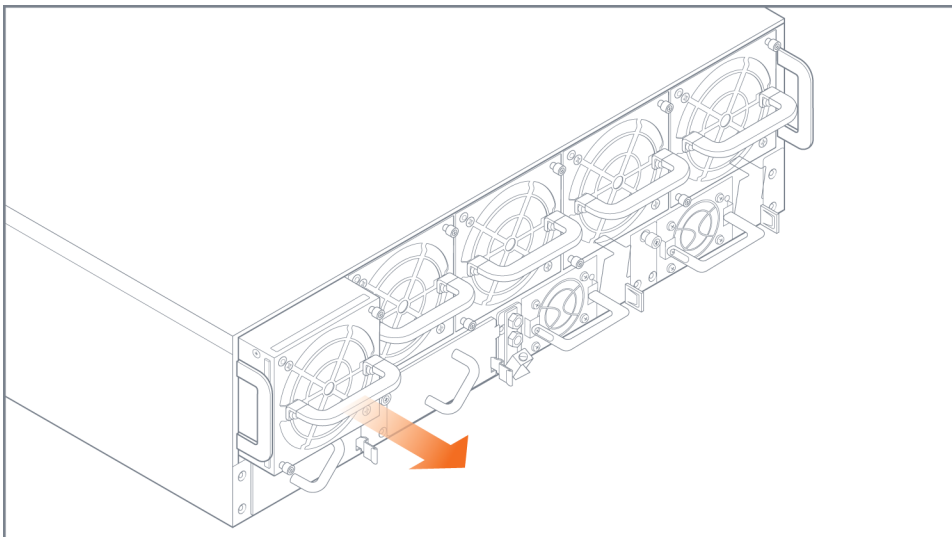

Figure 8: Fan Module Removal
3. Pull the failed fan module out of the slot and set it aside. Refer to Figure 8: Fan Module Removal.